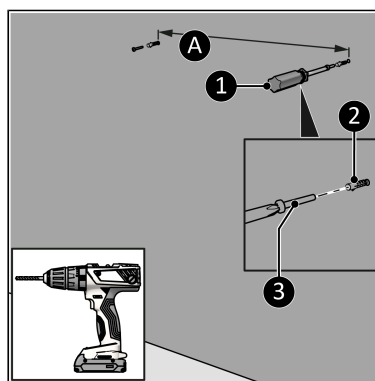

Figure 24.
4. Drill two holes with approximately 160 mm between the holes (Figure 24, pos. A). And with a minimal distance from the floor of:
5. Place wall plugs (Figure 24, pos. 2).
6. Screw two large screws (Figure 24, pos. 3) to the wall using a Phillips screwdriver (Figure 24, pos. 1). Let the screws stick out a few millimeters from the wall.